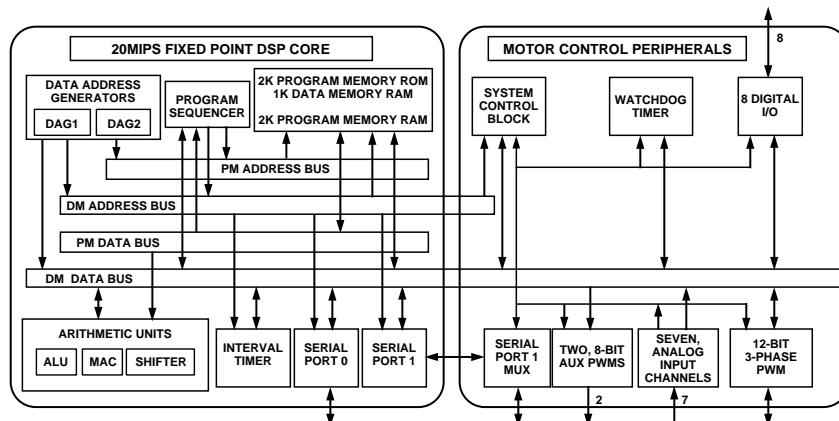

Figure 1. The ADMC330 single-chip DSP-based motor controller.
**ADMC330 Single Chip DSP-Based Motor Controller** (see Figure 1): The ADMC330 integrates a 20 MIPS DSP core, 2Kword program memory RAM, 2Kword program memory ROM, 1Kword data memory RAM, 2 serial ports and a variety of motor-control peripherals onto a single chip. The DSP core is similar to that used in the 16-bit fixed-point ADSP-2171. The motor control peripherals include 7 analog inputs with a comparator based ADC subsystem that permits 4 conversions per PWM period. In addition, a sophisticated 3-phase, 12-bit, PWM system enables all necessary inverter switching signals to be generated, timed to within 100 ns, with minimal processor overhead. Dead-time of these PWM signals may be adjusted in the processor so that no external logic is required. The PWM unit includes special modes for brushless dc motors or electronically commutated motors, where only two of the three motor phases conduct at the same time. In addition, the ADMC330 includes 8 digital I/O lines, a watchdog timer, a general purpose 16-bit timer and two auxiliary PWM outputs.